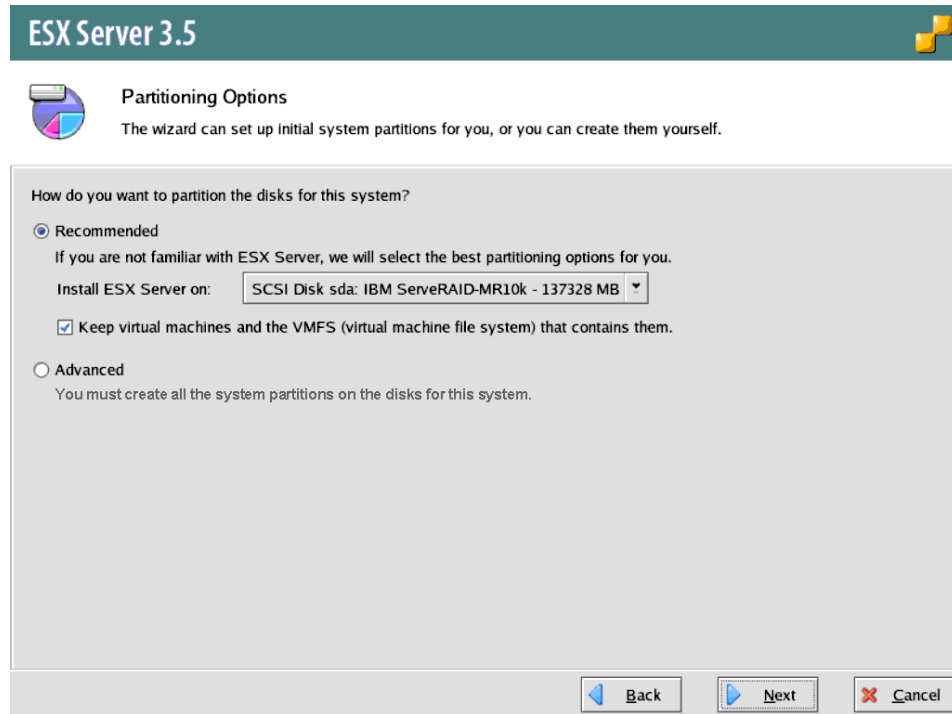

Figure 5-30 ESX 3.5 Update 1 Partitioning Options
4. For Partitioning Options, Figure 5-30, select the available local or remote disk (bootable SAN LUN) on which to install ESX 3.5 Update 1. If multiple disks are available, be careful to select the correct disk to install ESX 3.5 Update 1, otherwise the server might not boot correctly into ESX 3.5 Update 1 hypervisor.